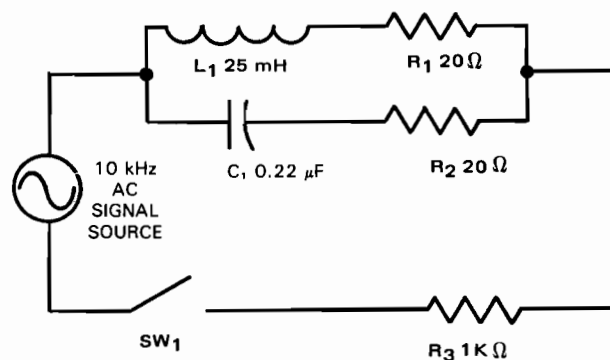

Fig. 11-3-1
1. Construct the parallel resonant test circuit as shown in Fig. 11-3-1.